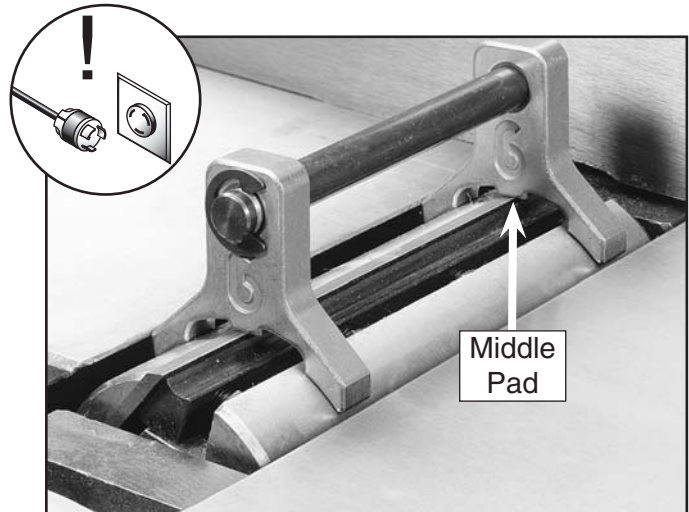

Figure 42. Jig positioned over cutterhead knife.
4. Place the knife jig on the cutterhead, directly over a knife, as shown in **Figure 42**.
6. Position the knife gauge over the knife as shown in **Figure 42** and loosen the gib bolts until the knife is completely loose.